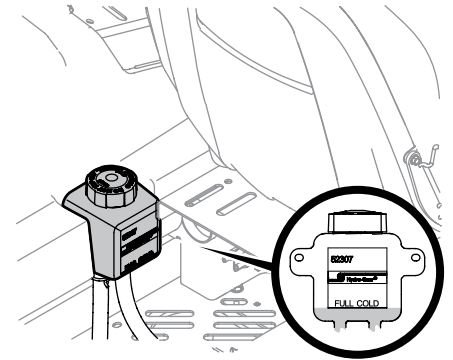

Figure 4-5
1. Pivot the operator's seat forward and clean the reservoir cap and the area around the cap to prevent debris from contaminating the transmission oil. See Figure 4-5.
2. Turn the reservoir cap counterclockwise to re-move, then check the oil level in the reservoir. Oil should be visible at the bottom of the cup, but the oil level must NOT be above the "FULL COLD" line. See Figure 4-5. DO NOT FILL THE RESERVOIR.